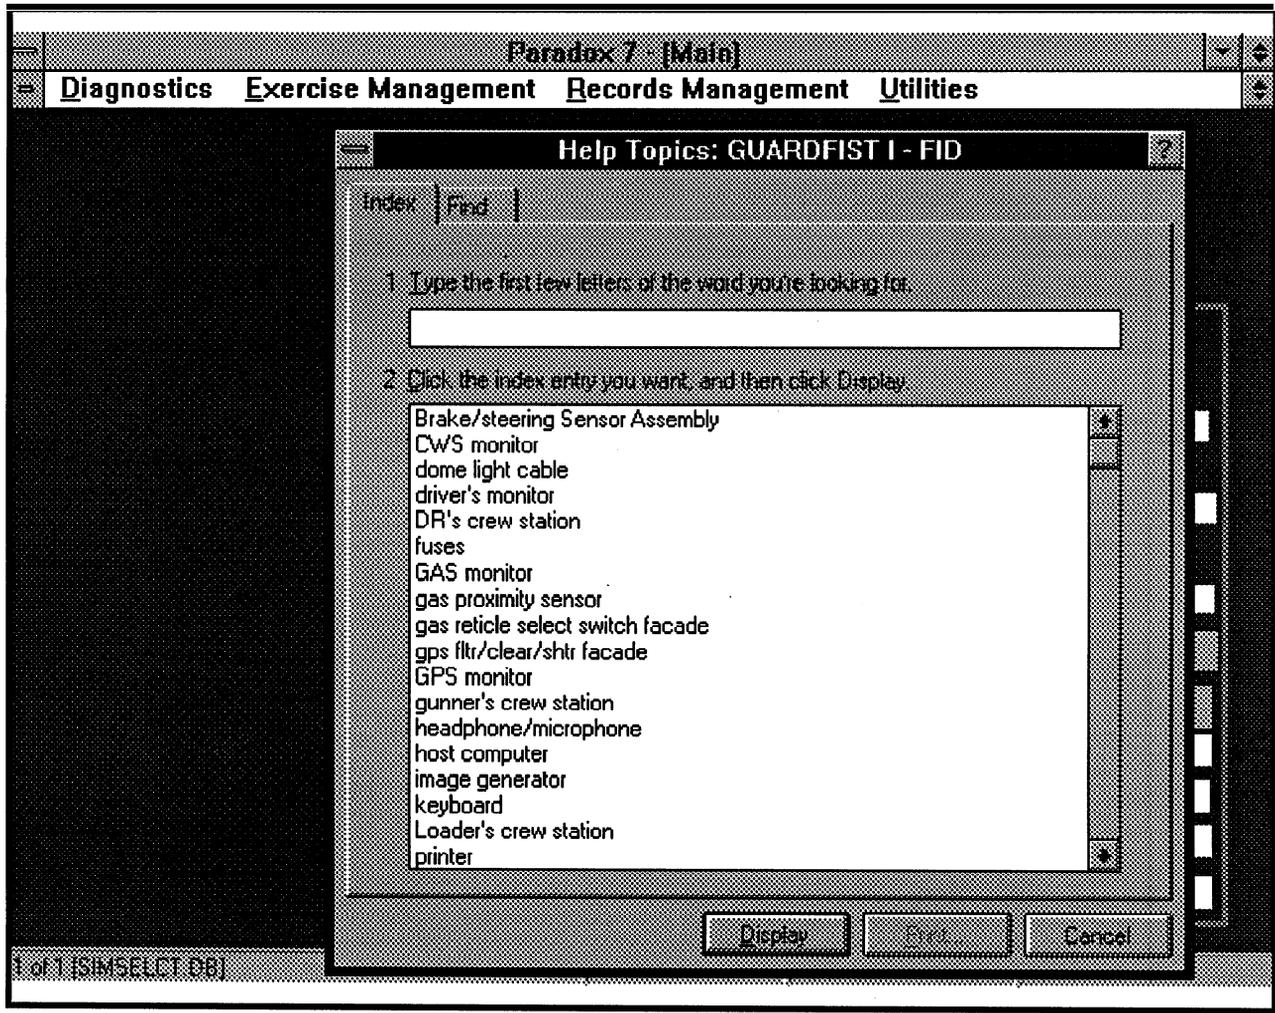

Figure 3-25. FID Screen
- a. At the AFIST Main screen, select FID from the Diagnostics pull-down menu. The FID Screen, Figure 3-25, displays with a index of help topics.